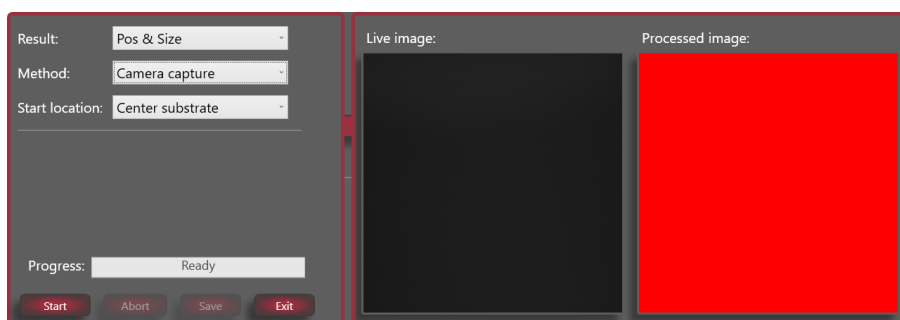

Figure 3-22 Scan substrate window after selecting the camera
9. When the alignment camera was selected, the window enlarges, see Figure 3-22.